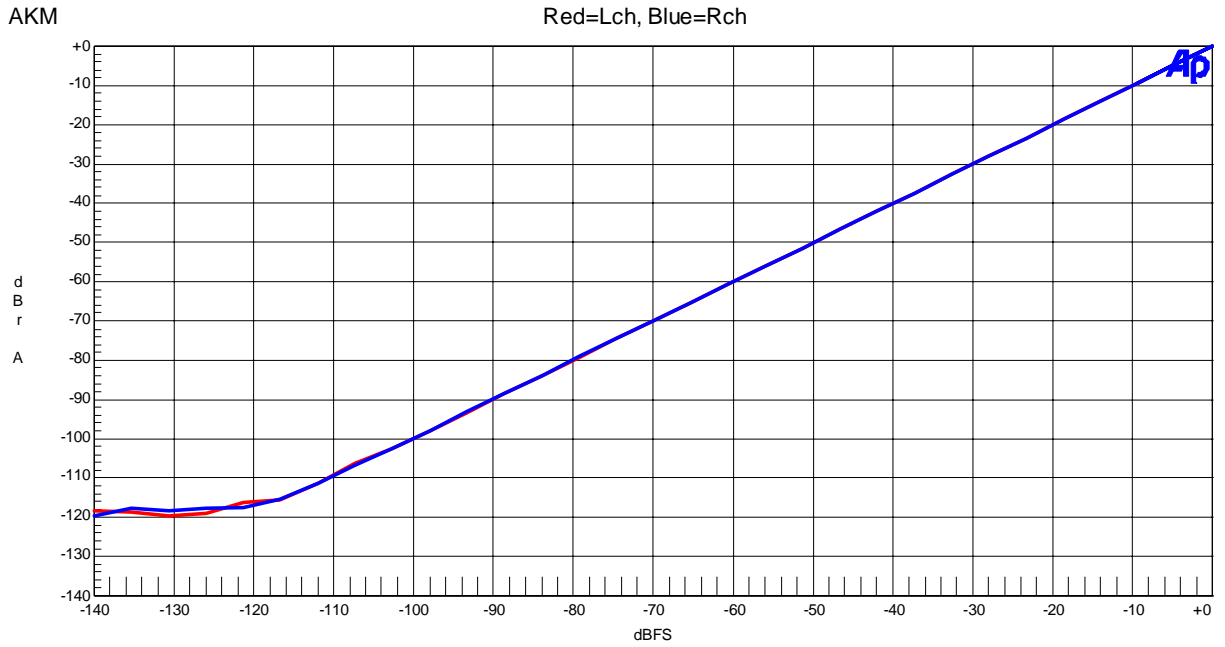

Figure 29 Linearity (fin=1kHz)
- Figure 29 Linearity (fin=1kHz)